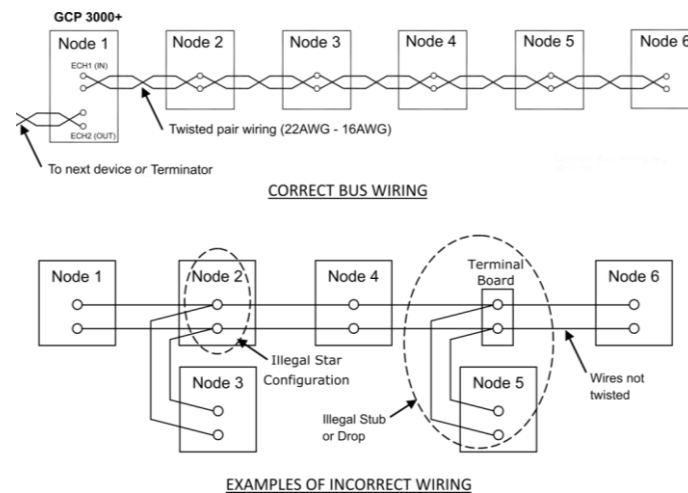

Figure 30 Echelon LAN Bus Wiring
- Each connection (node) must be wired in a daisy chained bus configuration, no drops allowed (see Figure 30).